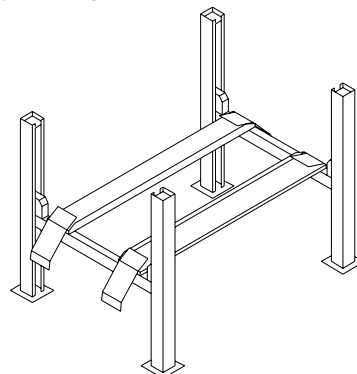

Fig.1
3. BESCHRIJVING HEFBRUG (Fig.1)